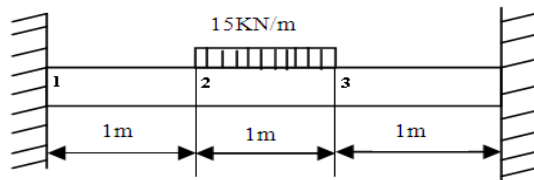

Fig.2
4. The beam and loading shown in Fig.2. Determine the slopes at nodes 2 and 3 and the vertical deflection at the mid-point of the distributed load. $E=200\text{ GPa}$ and $I=4 \times 10^6\text{ mm}^4$